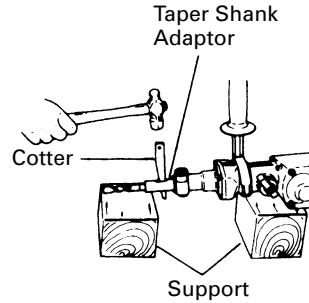

Fig. 9
- (1) Install drill bit with taper shank in the taper shank adaptor.
- (2) Turn the power on and drill a base hole.
- (3) After cleaning out dust with a syringe, attach the plug to the anchor tip and drive in the anchor with a manual hammer.
- (4) To remove the drill bit with taper shank, insert a cotter into the slot of the taper shank adaptor, place supports under the rotary hammer and tap the cotter with a manual hammer. (Fig. 9)